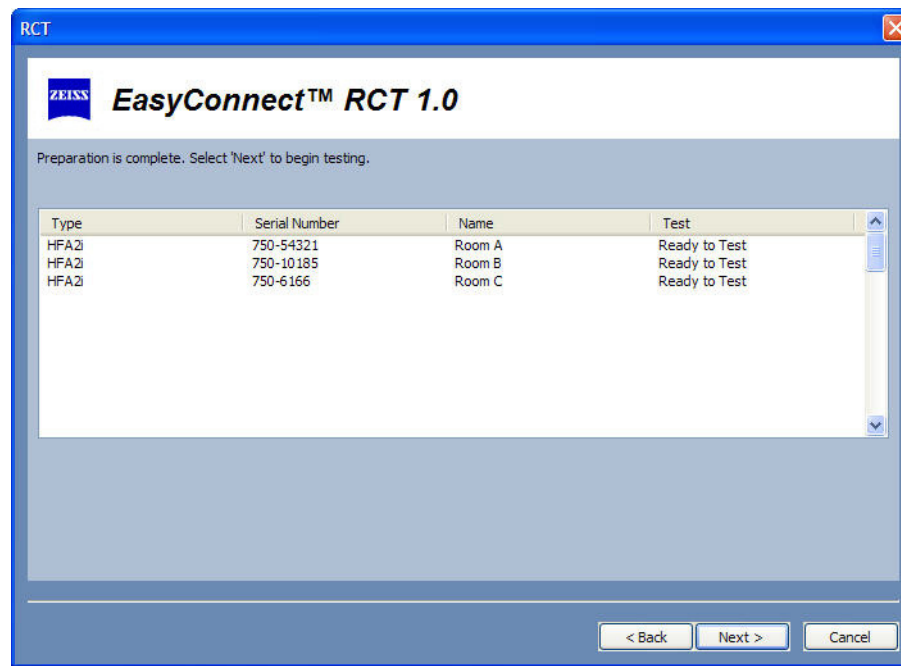
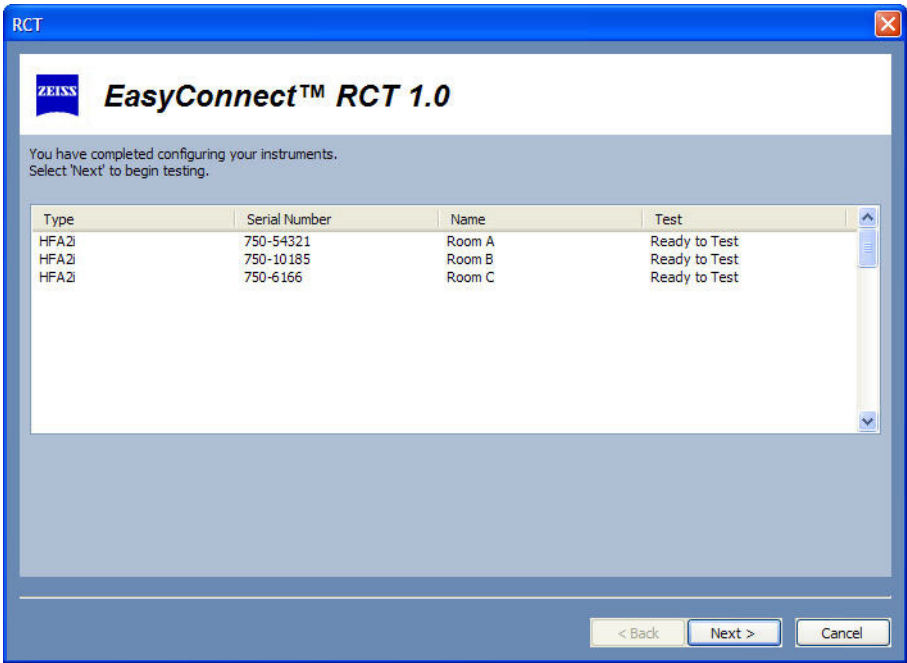
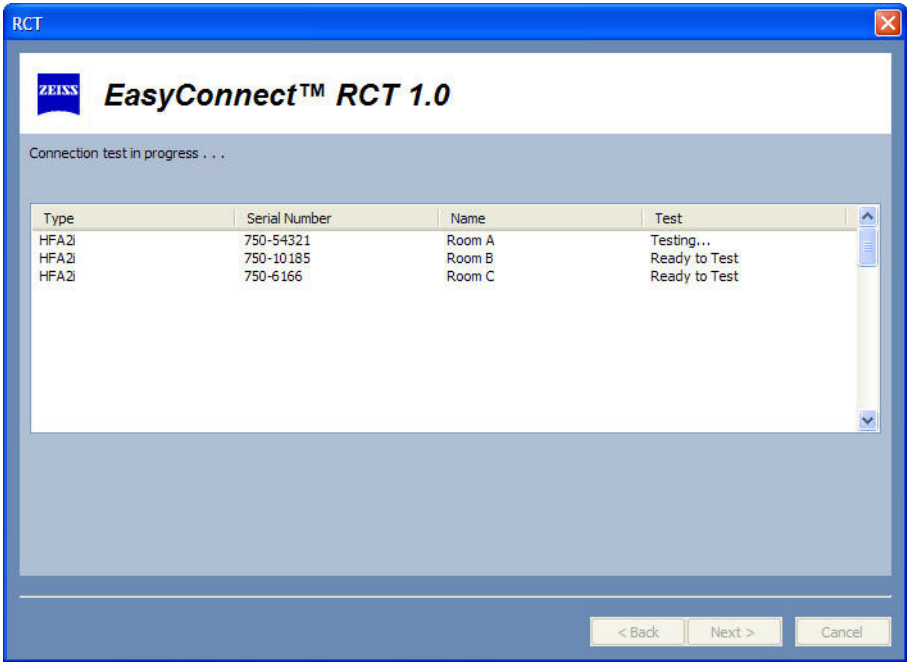

Figure G.47 Configuration Complete in Test Mode – Ready to Test
Figure G.48 Configuration Complete in Easy, Copy, or Custom Mode – Ready to Test
Figure G.49 Connection Test in Progress for First Instrument
- 3 A Ready to Test screen will be displayed (Figure G.47 and Figure G.48). Select NEXT to begin testing your configured instruments, one at a time. Figure G.49 shows a connection test in progress for the first instrument configured. When an instrument has finished testing, the entry in the Test column changes to either "PASSED" or "FAILED." Keep selecting NEXT until all instruments have completed testing.